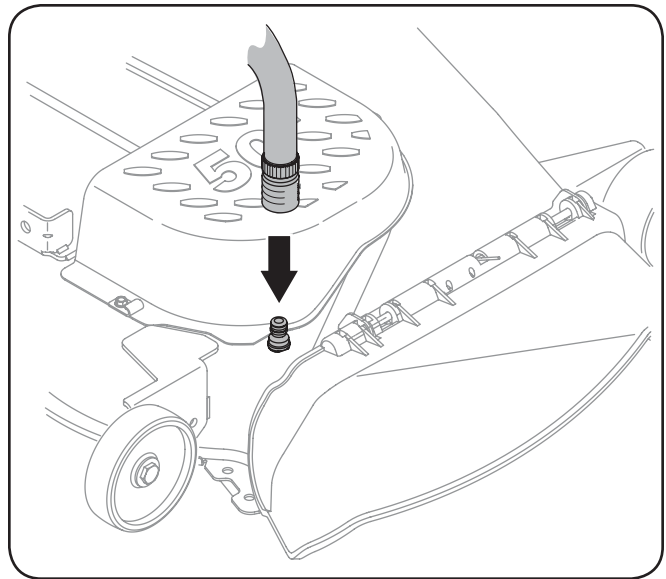

Figure 6-3
4. Attach the hose coupler to the water port on your deck's surface. See Fig. 6-3.